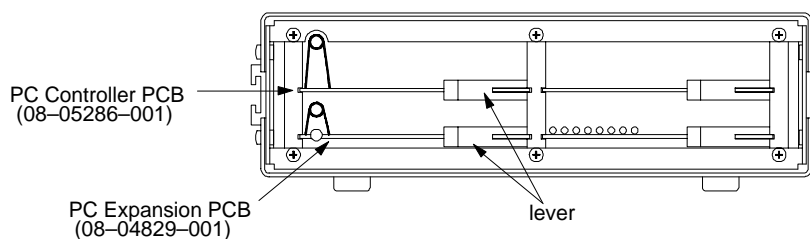

Figure 1: Position of the PC Controller PCB and the PC Expansion PCB in the 9001
- Locate the slot containing the PC Controller PCB at the top left-hand corner of the interface (see Figure 1).
- Locate the slot containing the PC Expansion PCB at the bottom left-hand corner of the interface (see Figure 1).
- If you have removed the PC Expansion PCB, replace it in the slot at the bottom left-hand corner of the 9001 (see Figure 1).
- If you have removed the PC Controller PCB, replace it in the slot at the top left-hand corner of the 9001 (see Figure 1).